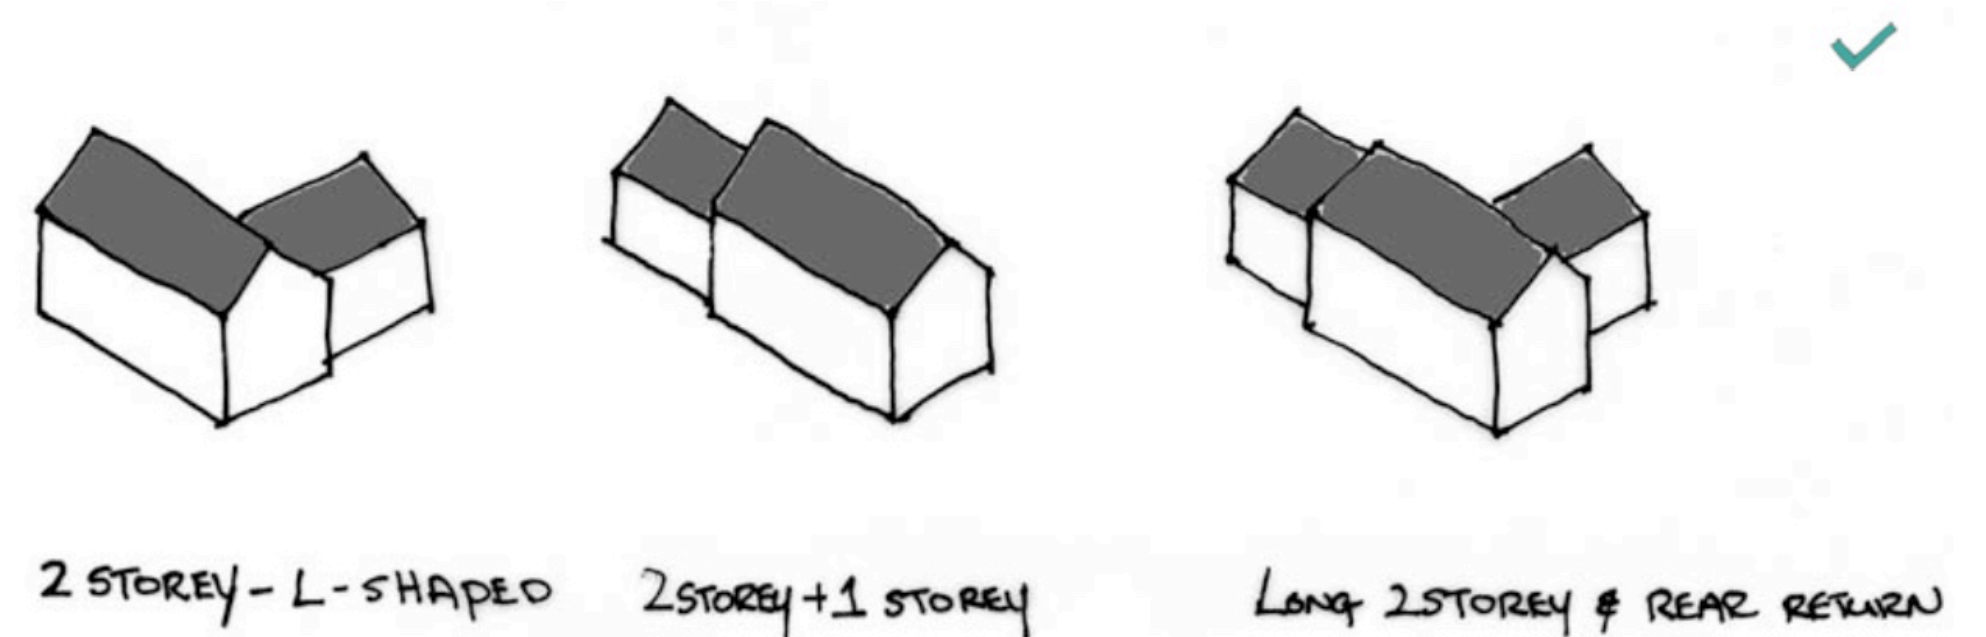

Figure 2: Mayo County Council guidelines on breaking larger mass down into several smaller forms [Mayo CoCo 2008]
- The mass broken into several smaller forms rather than one large form (Figure 2) [Mayo CoCo 2008]: